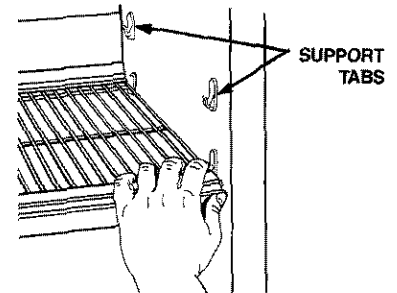

FIGURE 89
1. To remove, press tabs on shelf support on right side of wall, lift shelf out of support tabs. See Figure 89.